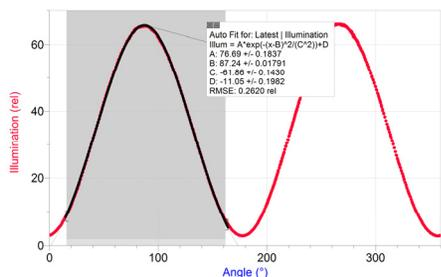

Figure 3: Selection for fits
- **Statistics:** To simply get the angle with the highest illumination, highlight the peak of interest in Logger Pro or LabQuest App, as shown in Figure 3. Choose Statistics from the Analyze menu. Record the angle value where the illumination is at a maximum, as presented in the box. This method is the fastest and will result in reproducibility of the angle of rotation measurement of $\pm 2.0^\circ$.
- **Gaussian:** To improve your accuracy with a better fit, highlight the peak of interest using Logger Pro or LabQuest App as shown in Figure 3. Then, choose Curve Fit from the Analyze menu. From the list of available Equations, select Gaussian. Select Try Fit in Logger Pro; in LabQuest App, the fit will run automatically. The B coefficient presented represents the angle at maximum illumination. This method will result in reproducibility of the angle of rotation measurement of $\pm 0.3^\circ$. The data are not a true Gaussian, but the ease and accuracy of this methodology make it a good option. For best results, be consistent in the way you select your peaks.